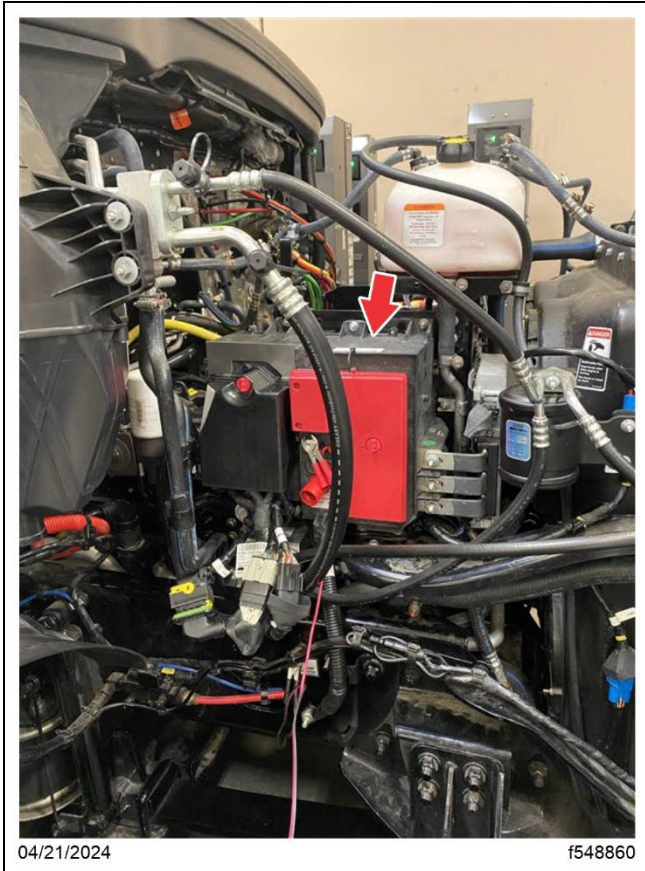
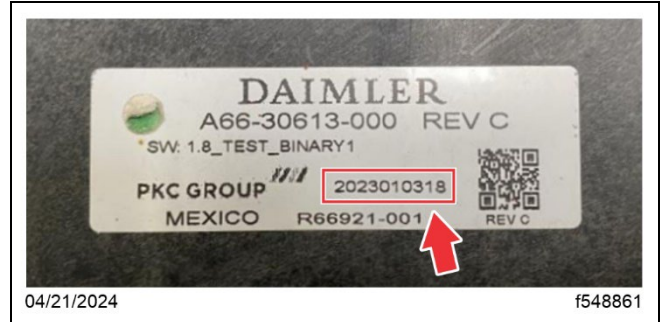

Fig. 1, EVDM on the Vehicle
Fig. 2, Serial Number on the EVDM Sticker
4. Locate the sticker on top of the EVDM and check the serial number. Inspect if the clean date on the EVDM is on or after 10/07/2024 (20241007XX). See Fig. 1 and Fig. 2.